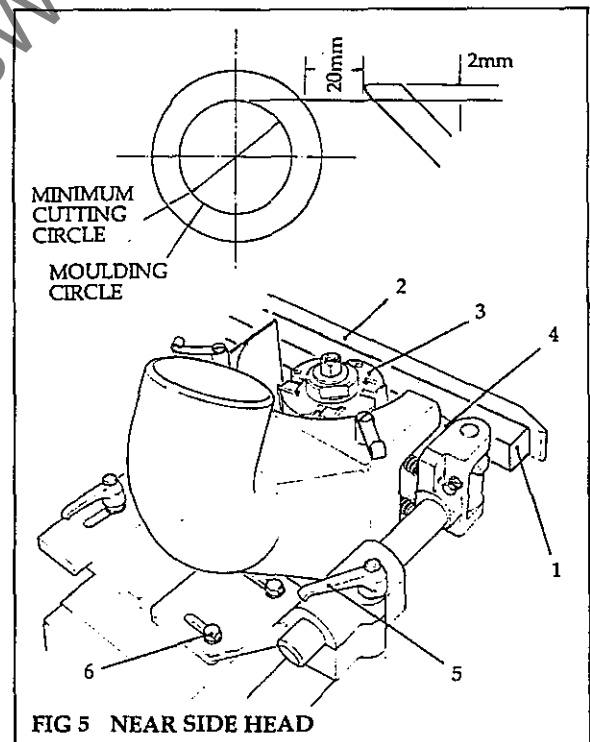

FIG 5 NEAR SIDE HEAD
Near Side Head (Fig 5)
- a. Release locking handle (13).
- b. Rotate handscrew (15) clockwise to advance the spindle or anticlockwise to retract the spindle.
- c. Refasten locking handle (13).
(3) Set the chipbreaker (4) as follows:
- b. Release the locking handle (5)
- c. Adjust the chipbreaker (4) so that it clears the smallest cutting circle by approximately 2mm (Fig 5).
- d. Refasten the locking handle (5).
- e. Unscrew the bolts (6) and adjust the chipbreaker (4) to suit the cutterblock diameter so that it clears the cutterblock by 20mm (Fig 5).
- f. Retighten the bolts (6).